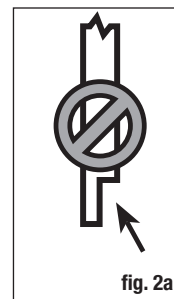

fig. 2a
**Important: Do not notch the 4x4 railing posts (fig. 2a).** Notching will reduce the strength of the post and could result in railing collapse or failure.